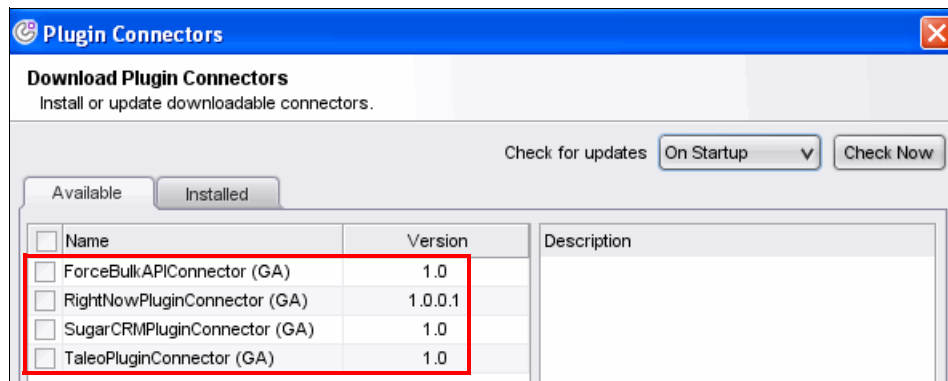

Figure 2-14 Studio: Download Plugin Connectors
2. Log in to access the plug-in repository. A list of available Plugin Connectors displays, as shown in Figure 2-14.